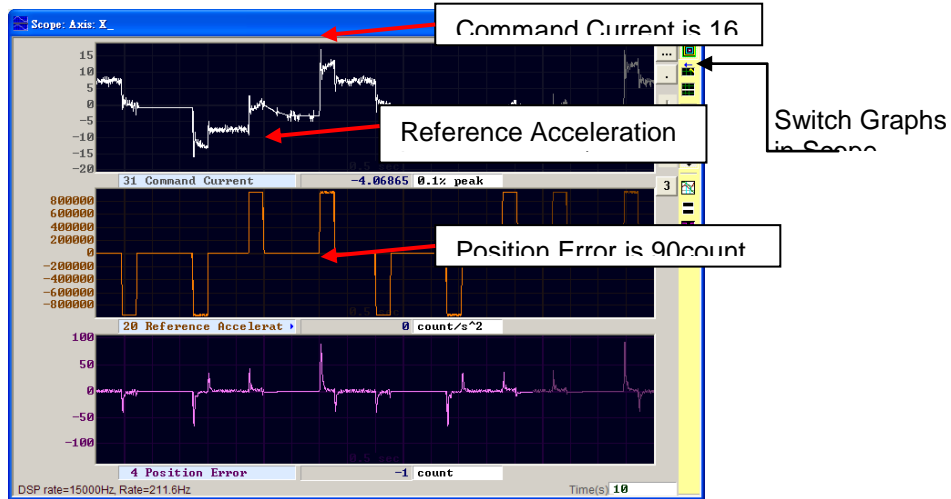

Figure 5-28 Motion Parameters
Step4. Write down the maximum Command Current during accelerating. As shown in Figure 5-28, command current is 16 in accelerating. Figure 5-28 is showing graphs displaying on the Scope at the start of the move. Using “Toggle scopes windows (Page Up)” button can switch to all graphs drawn in one plot chart. Repeat this button can switch sequentially the graphs of Command Current, Reference Acceleration and Position Error for convenient observation.
Step5. Write down the maximum value of reference acceleration in accelerating. For example shown in Figure 5-28, the reference acceleration is 950000counts/s².
Step8. Check if the position error is decreased as showing in Figure 5-30. It can be found that position error is reduced from 90 counts as shown in Figure 5-28 to 65 counts.